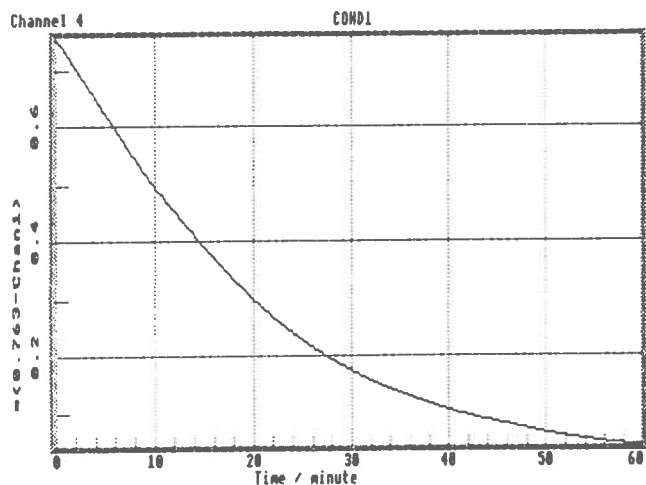

Fig.6  $(V_{\infty} - V_t)$  vs.  $t$
4. derive complementary voltage  $(V_\infty - V_t)$ . Plot this vs. time (Fig.6)
Adopting the treatment in Memorandum 16, ( $V_\infty - V_t$ ) was plotted against time (Fig.6) as this gives a measure of the concentration of 2-bromo-2-methylpropane [alkyl halide] at any given time.  $V_\infty$  had been found to be 0.763 V, using a digital multimeter. The derived data was obtained, in the example shown, by entering the right
The computer assigns the symbol  $x$  to the original data on channel 1 (Fig.5) representing conductivity and calculates a new channel of data on channel 4 (Fig.6)4.
The rate constant and information about the order of reaction can be obtained from the related data in Figs. 6, 7 and 8 by further mathematical manipulation using *Datadisc Plus*. This was achieved by use of the following analyses:
The differential of the data in Fig.6,  $(V_\infty - V_t)$  vs. time, was obtained by the same method as shown in Analysis 2. This was done by entering the right hand side of the following expression to the *Calculate related data* section of the *Mathematical Utilities Menu*: